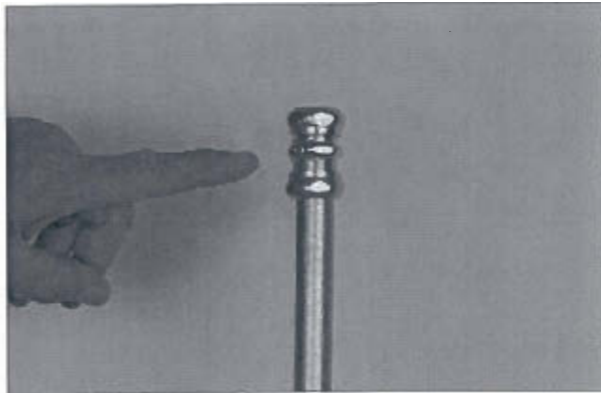

FIGURE 84
5. Install compression union to top of conduit riser. See Figure 84.